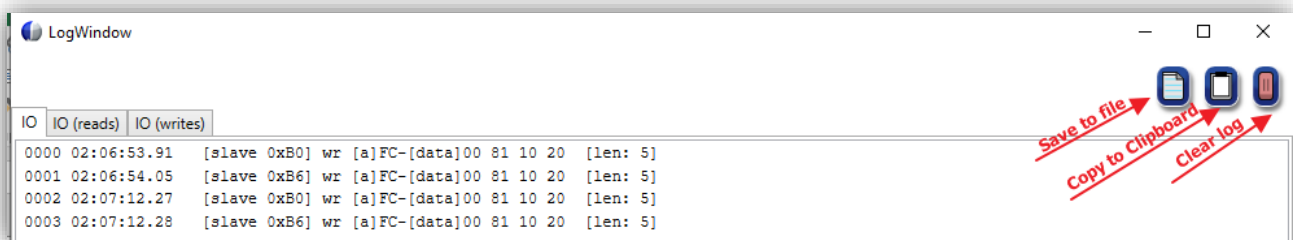

Figure 6. Log Window
Figure 6 shows an excerpt of the log window. It contains the following tabs:
4. Clear the log by pressing the red “Clear” button (see button in Figure 6).